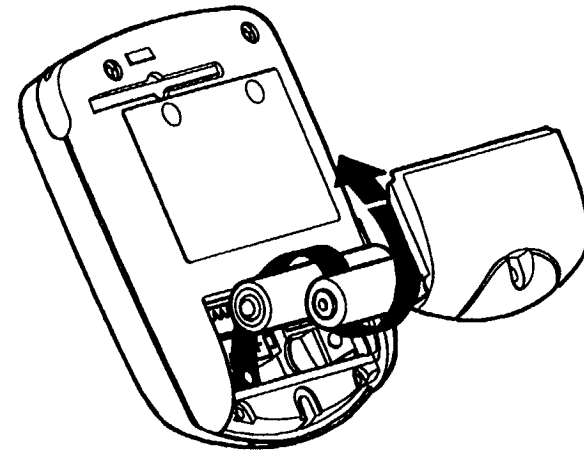

FIGURE 5 - 1: Battery Installation
6. Install two new batteries, taking care to align the batteries correctly in the compartment (see Figure 5 - 1). Orient the battery strap around the new batteries in the same manner it was wrapped around the old batteries.